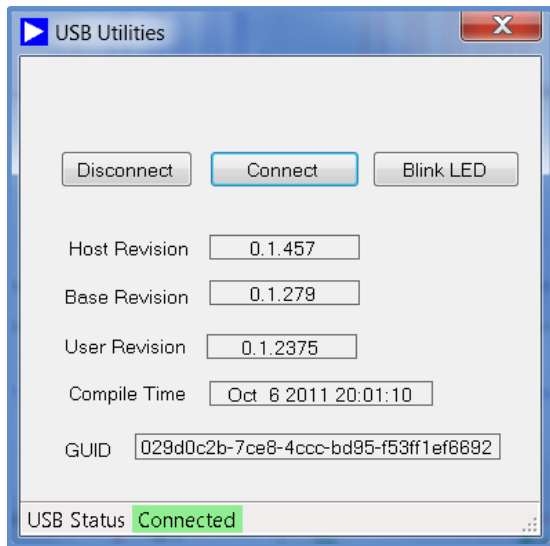
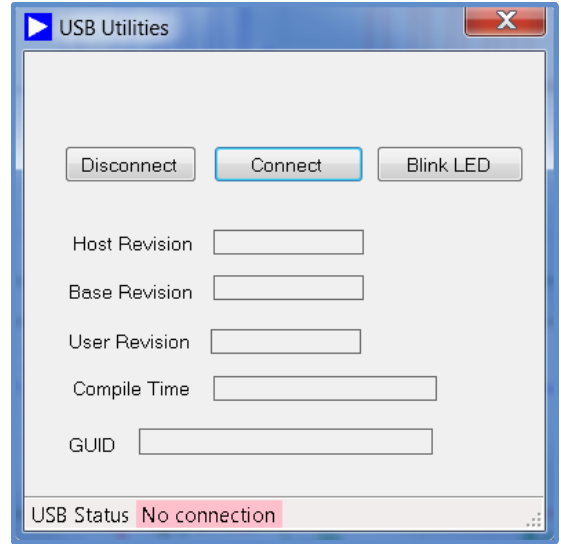

Figure 15. USB Tools, Connected
Figure 16. USB Tools, Not Connected
6. If the software does not recognize the **EVAL-ADIS** automatically, click **USB Tools** and then click **Connect** to establish communication (see Figure 15).
Clicking **USB Tools** in the menu bar of the main window provides a diagnostic tool for managing the USB connection to the EVAL-ADIS. Click this option to request a connection attempt. This window also provides several revision numbers. These numbers represent internal source control codes and are for Analog Devices, Inc., internal use only (see Figure 15 and Figure 16).